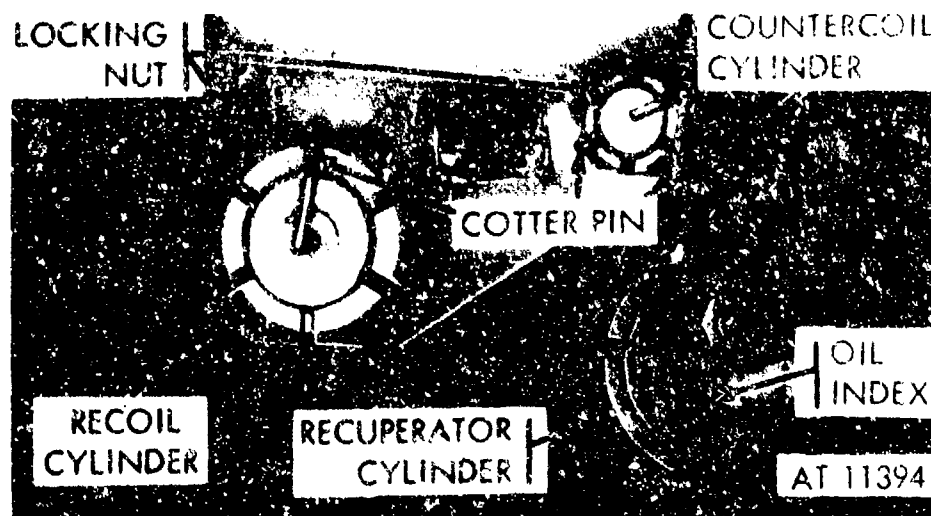

Figure 8-10. Recuperator oil index.
(1) Examine the recoil mechanism for general condition and for loose or damaged parts. Examine the condition of the rail wipers; they must be in good condition to prevent dust or sand from entering the slides of the recoil mechanism. Notify organizational maintenance personnel if replacement is required. Check for dirt or rust on the slides. Remove rust; clean and lubricate surfaces.
(2) Check whether the recoil and counterrecoil piston rod nuts are in position and held with cotter pins. Tighten the nuts, if necessary, and replace the cotter pins.
(3) Exercise the weapon by placing the retracting control valve in RETRACT until the weapon moves out of battery approximately 54 inches. Place the retracting control valve in RETURN and recharge the recuperator cylinder as described in *b* below.
(4) When the weapon is fired, see that the air check valve in the counterrecoil front head is functioning properly and allowing the air trapped in the cylinder to escape. If the air check valve is not functioning properly, notify organizational maintenance personnel.
b. *Recuperator oil index.* The recuperator oil index, located under the cannon at the rear of the recuperator cylinder (fig 8-10) indicates the oil reserve in the recuperator. If the oil index protrudes beyond the face of the recuperator, it is good. The procedure for reestablishing the oil reserve for howitzer M110A2 is as follows:
(1) Place the tube in the in-battery position.
(2) Place the PTO clutch switch in the ON position with the engine running. Activate OVERRIDE position on the main oil pump switch to build-up the system to maximum pressure (2,800 psi).
(3) Place the retracting control valve handle in RETRACT position until the index pin on the recuperator moves *in*, then place the retracting control handle in the NORMAL AND HOLD position. (Omit this step when the pin is *in*.)
(4) Remove the plug from the replenisher and insert a clean improvised rod through the opening in the replenisher and against the piston. Note the depth of the piston.
(5) Assistant gunner will hold retracting control valve handle in return. After index pin has moved out, continue to hold handle in return for 3 seconds. If index pin does not come out, see note.
(6) Return the retracting control valve handle to NORMAL AND HOLD position.
(7) Release the oil pump motor switch from the OVERRIDE position.
(8) If the index pin does not move, notify organizational maintenance personnel.
(9) Check the piston movement in the replenisher by noticing the position of the improvised rod. If the rod has moved during step (5), the replenisher is operating normally.
(10) Remove the rod and replace the plug in the replenisher.
**CAUTION:** Under no circumstances shall the index pin be tapped to insure that the index is operating freely. If the index pin fails to project beyond the face at the housing after following the above procedures, notify support maintenance personnel. If there is excessive leakage, notify organizational maintenance personnel. This procedure applies to the M110A2 (fig 8-10).